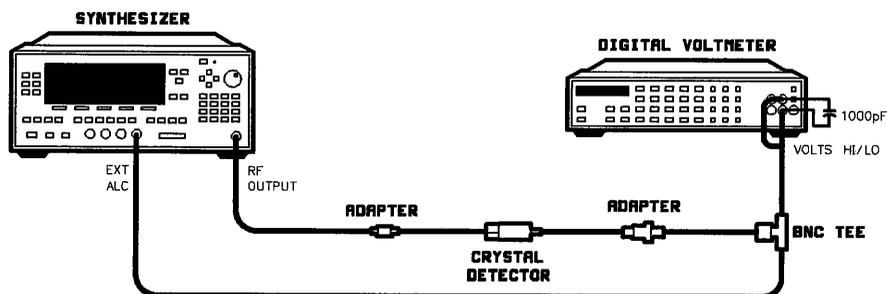

Figure 2-8. External Leveling Test Setup
1. Preset all instruments shown in Figure 2-8 and let them warm up for at least one hour.
3. Connect the equipment as shown in Figure 2-8.